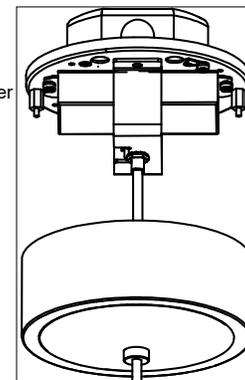

Figure 2: Base Mounting
4. Attach canopy base onto 4" octagonal wiring box using [2] Phillips head screws. [Figure 2]